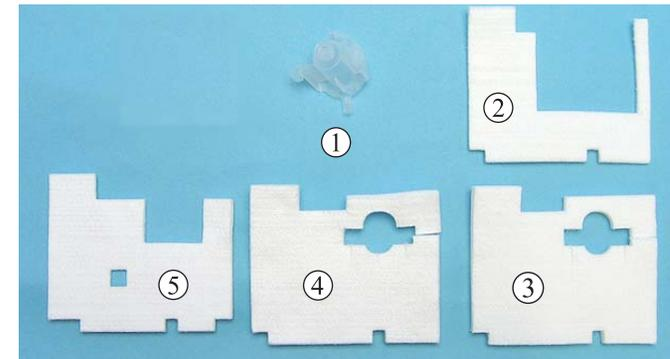

Figure 4-91. Installing Waste Ink Pads (1)
- When installing (1) in the section (B) (refer to Figure 4-91), be sure to match the positioning tabs and press (1) until it clicks to secure it in the right position.